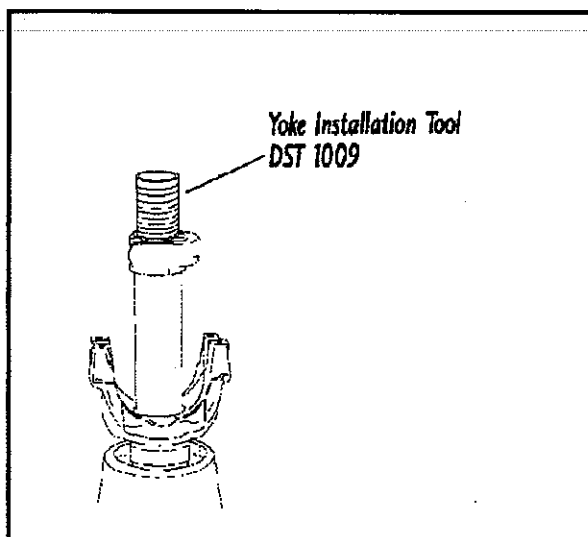

Figure 23—Install End Yoke
11. Install end yoke on to pinion without seal to allow proper setting of bearing preload. (See Figure 23—Install End Yoke.)